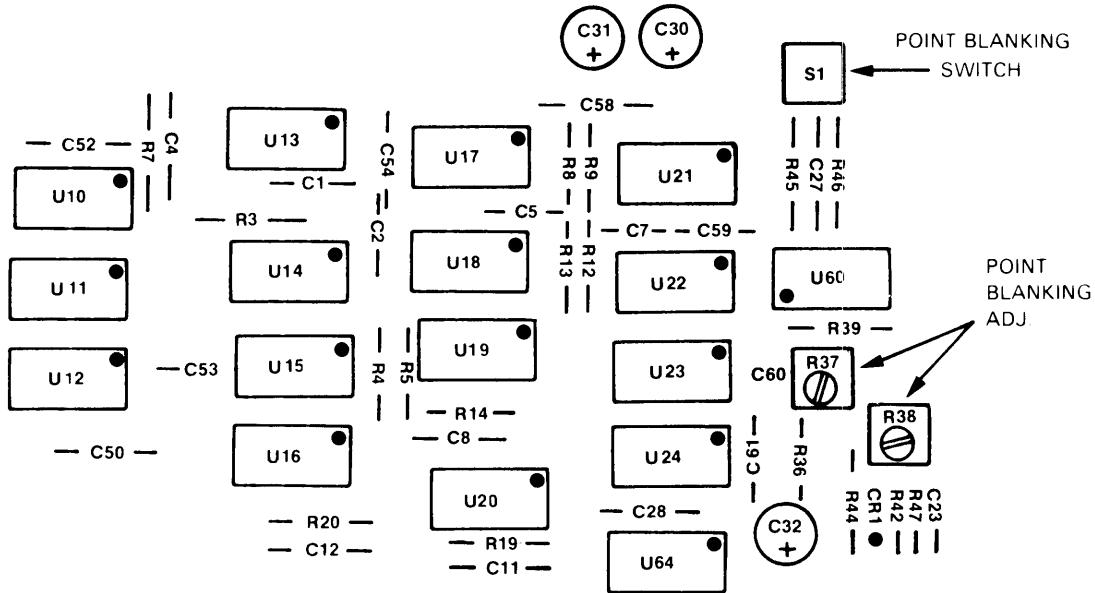

Figure 5-10. Point Blanking Switch and Adjustment Locations on Control Board
d. Adjust A1R37 and A1R39 (figure 5-10) so that the asterisks have proper shape and uniform intensity.
e. Change position of point blanking switch (figure 5-10). Shape and intensity of the asterisks should not change. Readjust if necessary until no change. Return switch to forward position.